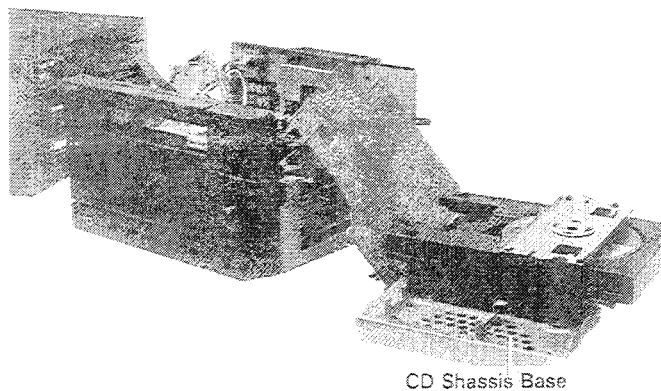

Fig. 5
3. Confirm the P.C. board as shown in the Fig.5.
(6) Removing the Front panel